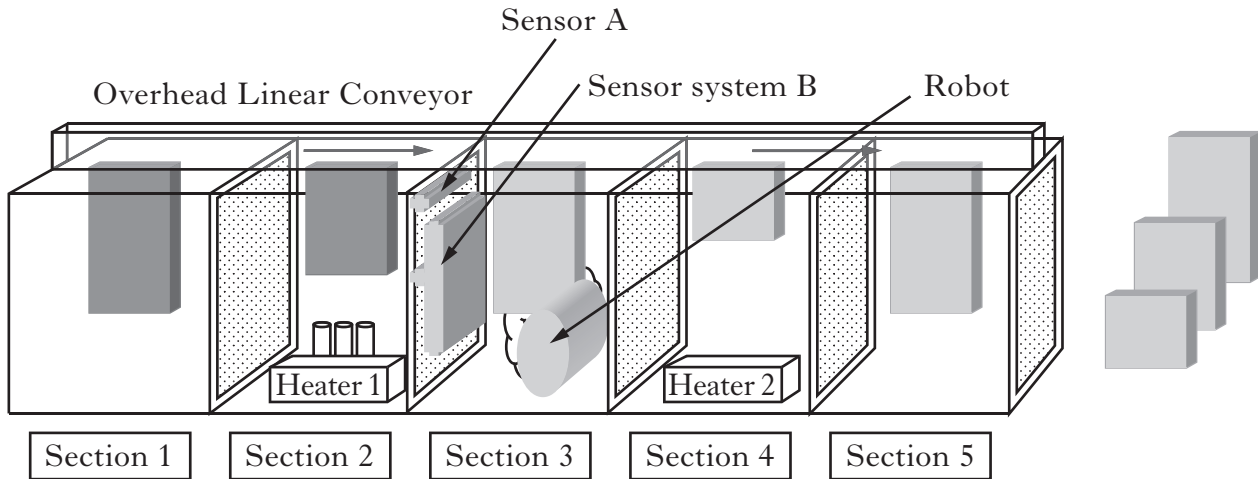

Figure Q13
13. Figure Q13 illustrates a powder coating system in which domestic radiators are manually loaded onto the overhead linear conveyor. The radiators come in three sizes (small, medium and large). The radiators move through the various work sections and are then manually unloaded as a coated product.